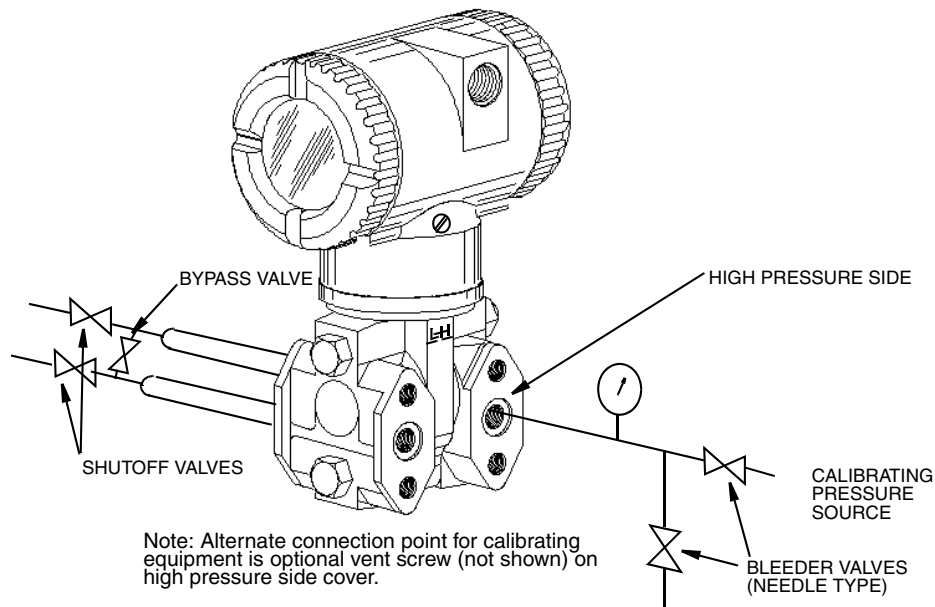

Figure 30. Field Calibration Setup
To set up the equipment, refer to Figure 30 and use the following procedure.
4. Complete the setup shown in Figure 30.